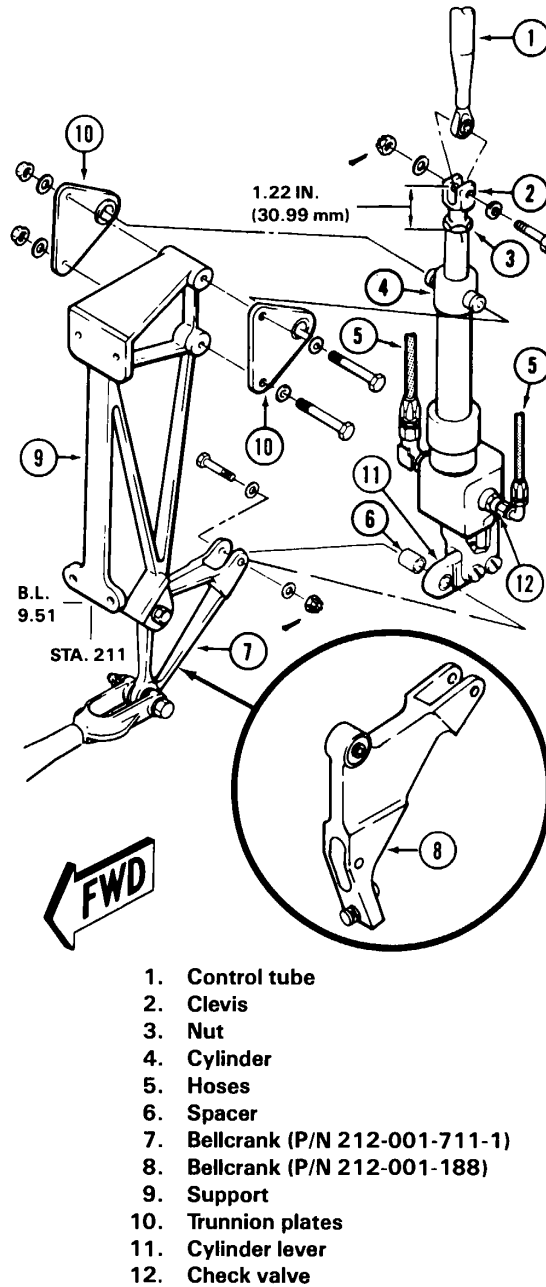

Figure 29-10. Tail Rotor Hydraulic Cylinder
The hydraulic boost cylinder (4, Figure 29-10) in the anti-torque control linkage is mounted in the fuselage under engine deck immediately forward of the tailboom. The cylinder reduces effort required for control and reduces feedback forces from tail rotor. The boost cylinder receives pressure from system 1 only.
29.3.10.1.2 Disconnect hydraulic pressure and return hoses (5, Figure 29-10) from hydraulic cylinder (4). Cap or plug open hoses and fittings.
29.3.10.2.1 Grasp cylinder (4, Figure 29-10) just below trunnion plates (10) and move the cylinder laterally. Lateral movement of cylinder should be from 0.003 to 0.050 in. (0.076 to 1.27 mm). There should not be any evidence of binding.
29.3.10.3.1 Position hydraulic cylinder (4, Figure 29-10) and two trunnion plates (10) on support (9).